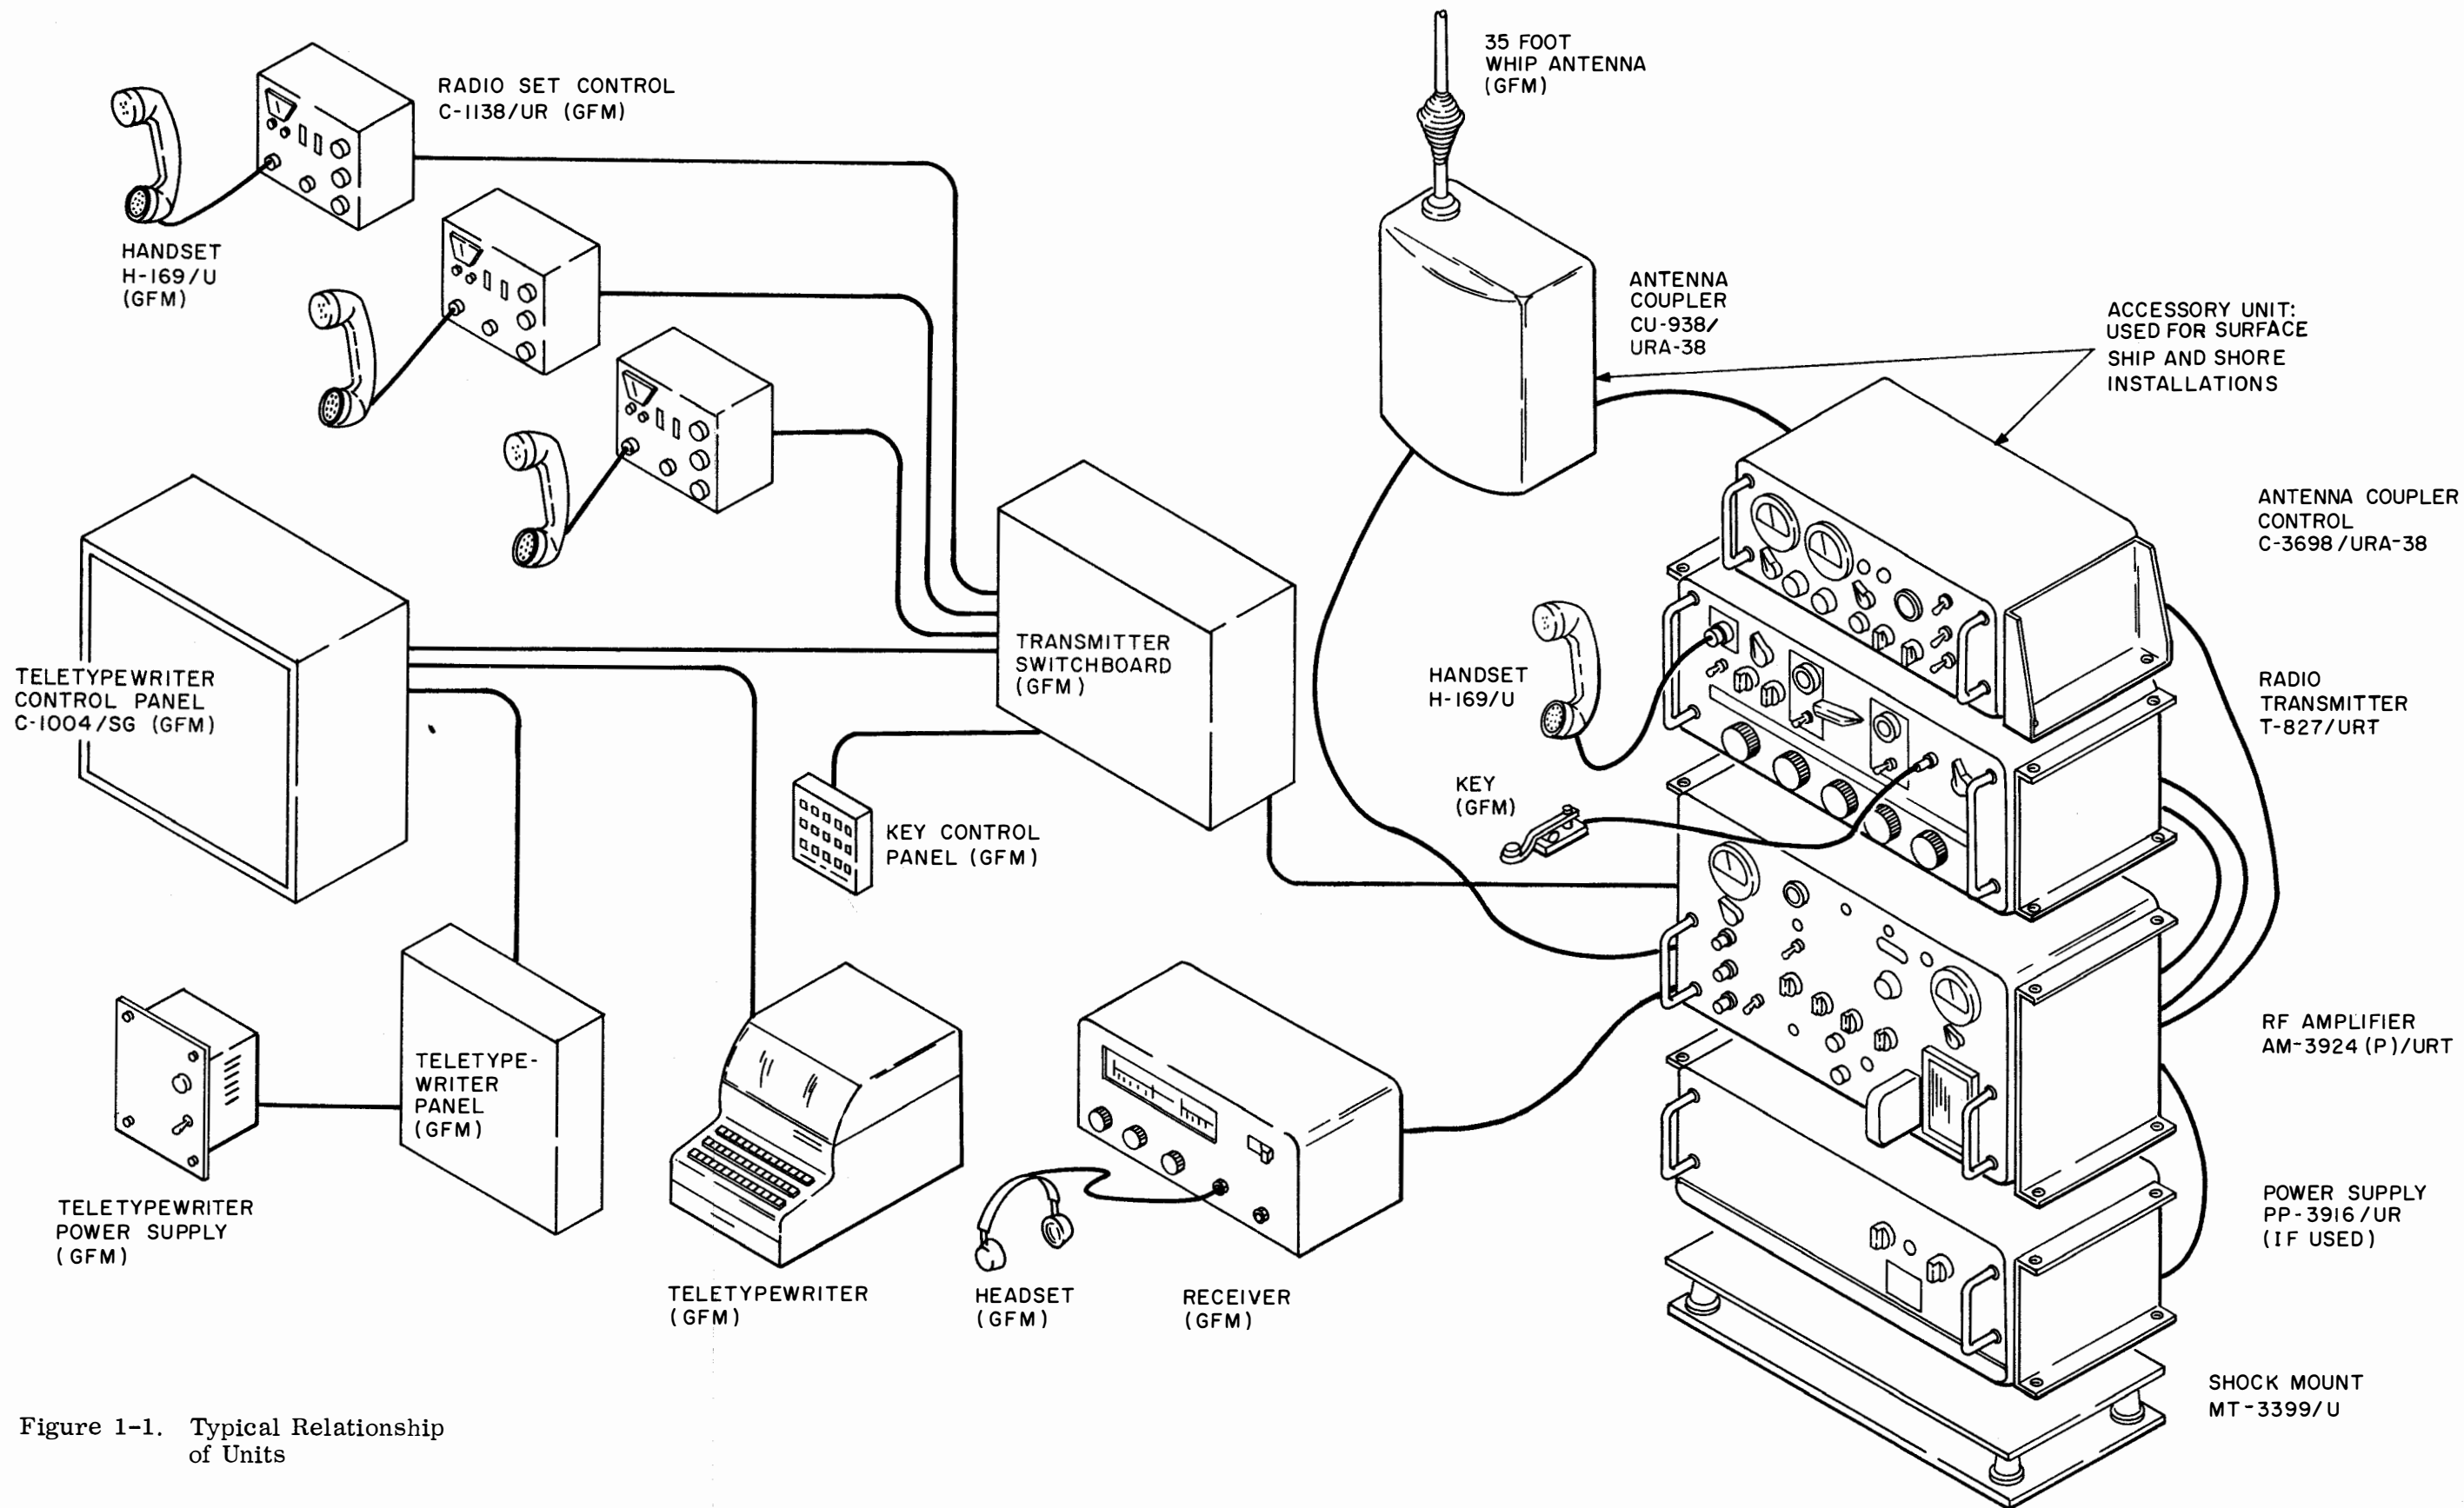

Figure 1-1. Typical Relationship of Units
1-6. The AN/URT-23(V) is a 1 KW single-sideband Radio Transmitting Set that can be supplied in any one of four possible configurations. The normal configuration will include Radio Transmitter T-827/URT, and will be capable of general purpose voice, continuous wave, and radio teletypewriter transmissions in the 2.0 to 30.0 MC frequency range. The exact spacing and number of channels available for operation in this configuration is dependent on the model of the T-827/URT supplied as a part of the AN/URT-23(V) (paragraph 1-8). In the other configurations, the modes of operation, frequency range, and number of channels available will depend on the exciter being used. Stack or rack mounting may be used to install the units of the AN/URT-23(V) in a ship or shore fixed installation with other ancillary equipment to form a complete communications system such as that shown in figure 1-1. Any one of three three-phase primary power sources can be used to provide operating power to the AN/URT-23(V): 115 volts line-to-line, 400 CPS; or 208 or 440 volts line-to-line, 60 CPS. The major units used to make up the four AN/URT-23(V) configurations are: Radio Transmitter T-827/URT, Radio Frequency Amplifier AM-3924(P)/URT, Power Supply PP-3916/UR or (optionally) Power Supply PP-3917/UR, and Electrical Equipment Shock Mount Base MT-3399/U. Hereinafter, these units will be referred to as the T-827/URT, AM-3924(P)/URT, PP-3916/UR, PP-3917/UR, and MT-3399/U, respectively.